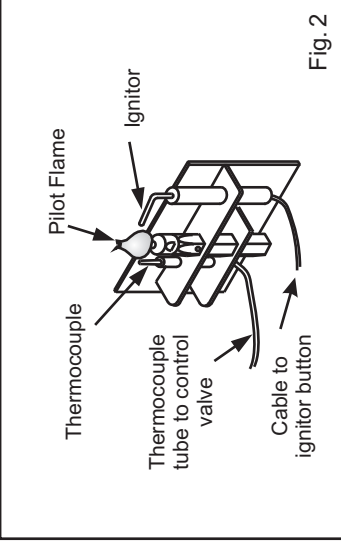

Fig. 2
- To light the appliance manually first light a match or barbecue lighter. Push the control knob in and turn it anticlockwise to the ignite position whilst holding the knob pushed in. Whilst still holding the knob in, offer the lit match or barbecue lighter up to the pilot light (see Figs. 2 & 4). This will ignite the pilot. Once the pilot is lit follow the instruction above to ignite the fireplace burner and adjust the heat setting